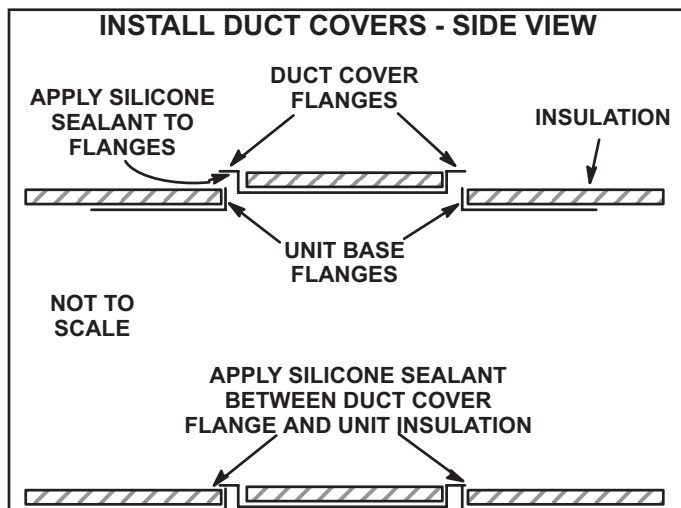

FIGURE 4
- 1 - Remove horizontal covers and place a bead of silicone sealant on the underside of the duct cover flanges. See FIGURE 4.